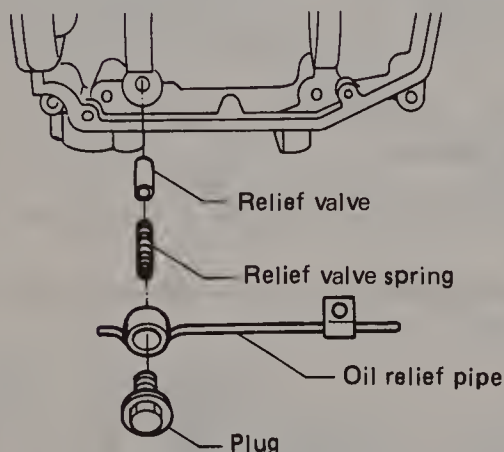

Fig. 13.20 Remove the oil relief plug, oil relief pipe, relief valve spring and relief valve (Sec 5)
- 95 Remove the oil relief plug, then remove the oil relief pipe, relief valve spring and relief valve (Fig. 13.20).